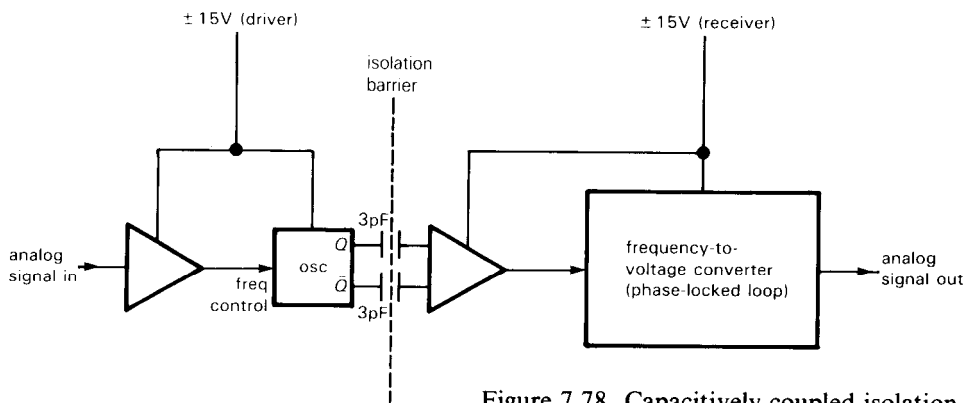
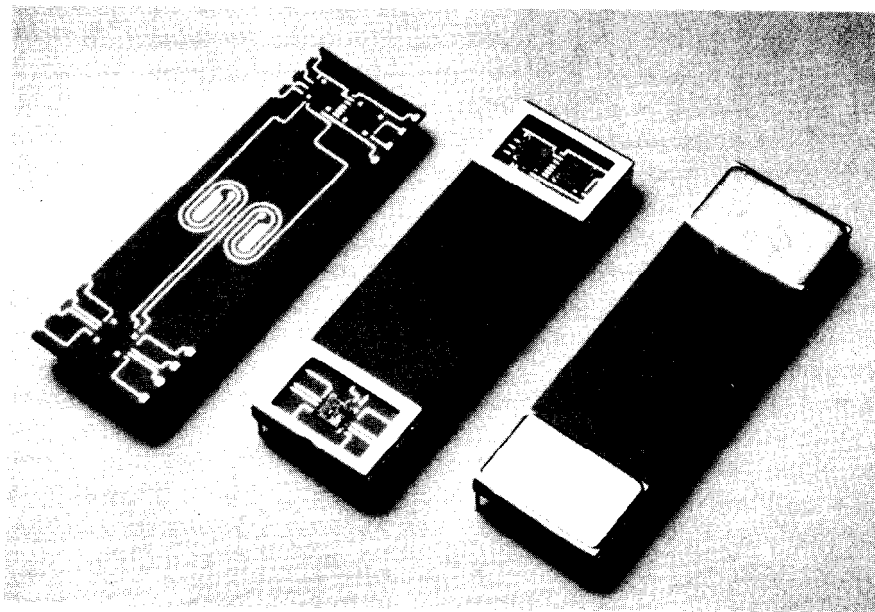

Figure 7.78. Capacitively coupled isolation amplifier.
Figure 7.79. Burr-Brown ISO106 isolation amplifier. (Courtesy of Burr-Brown Corporation.)
3. Capacitively coupled isolation of a high-frequency carrier signal, which is frequency-modulated with the signal to be isolated (Fig. 7.78). This technique is typified by the ISO102, ISO106, and ISO122 from Burr-Brown (Fig. 7.79). There is no feedback, as with transformer isolation, but for most models you need power supplies at both ends. This usually isn't a problem, since you are likely to have electronics at both ends, generating and using the signal. If not, you can get an isolated